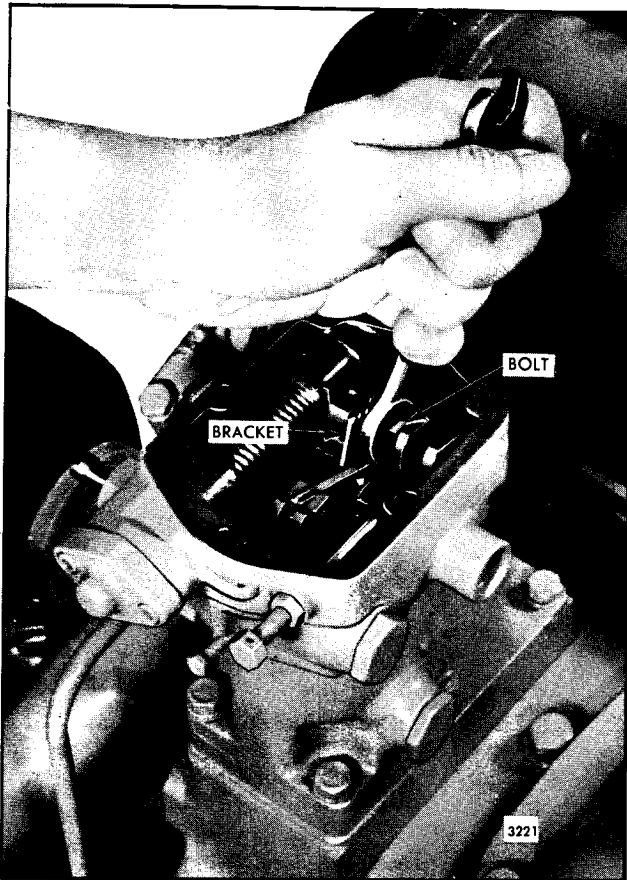

Fig. 7 - Adjusting Speed Droop
4. Loosen the droop adjusting bolt (see Fig. 7). Move the droop bracket so that the bolt is mid-way between the ends of the slot in the bracket. Tighten the bolt. Be sure that the bracket remains on the shoulder of the terminal lever.